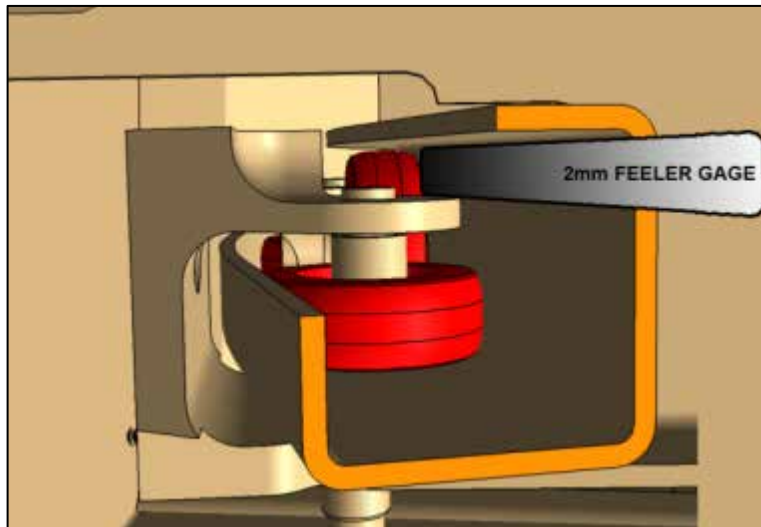

Figure 64
96. Next, apply the proper gap for the horizontal wheels. Insert a **5/64"** (2mm) feeler gage behind the vertical wheel. (Figure 64)